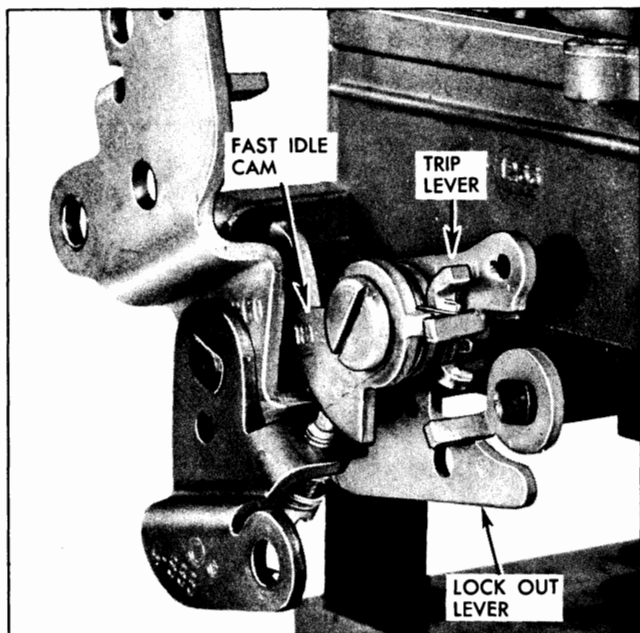

Fig. 6B-78 Location of Fast Idle Cam and Lockout Lever
20. Remove fast idle cam attaching screw, fast idle cam, trip lever and lockout lever (Fig. 6B-78).
21. Remove primary to secondary throttle operating rod (Fig. 6B-79).